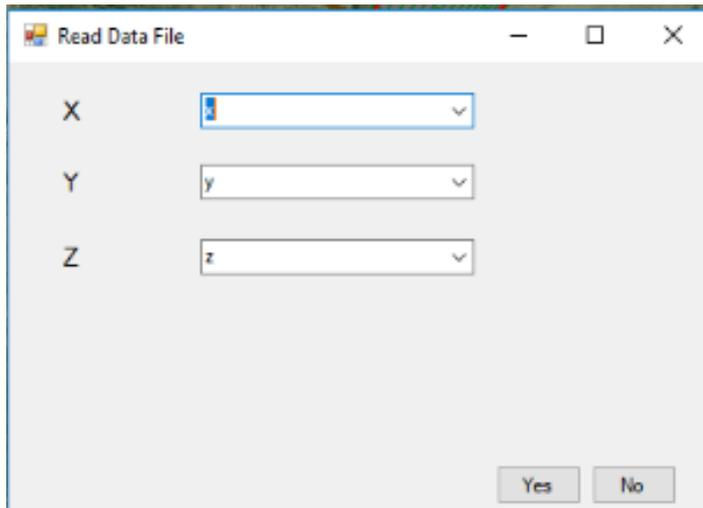

Figure 3-25. Interpolate mesh elevations to points in a file.
2. Select a text file that contains survey points. The file should contain point data for x, y, and z coordinates, separated by space or comma. The file should also include a heading with column names. The heading should be included in A form will appear (Figure 3-25).